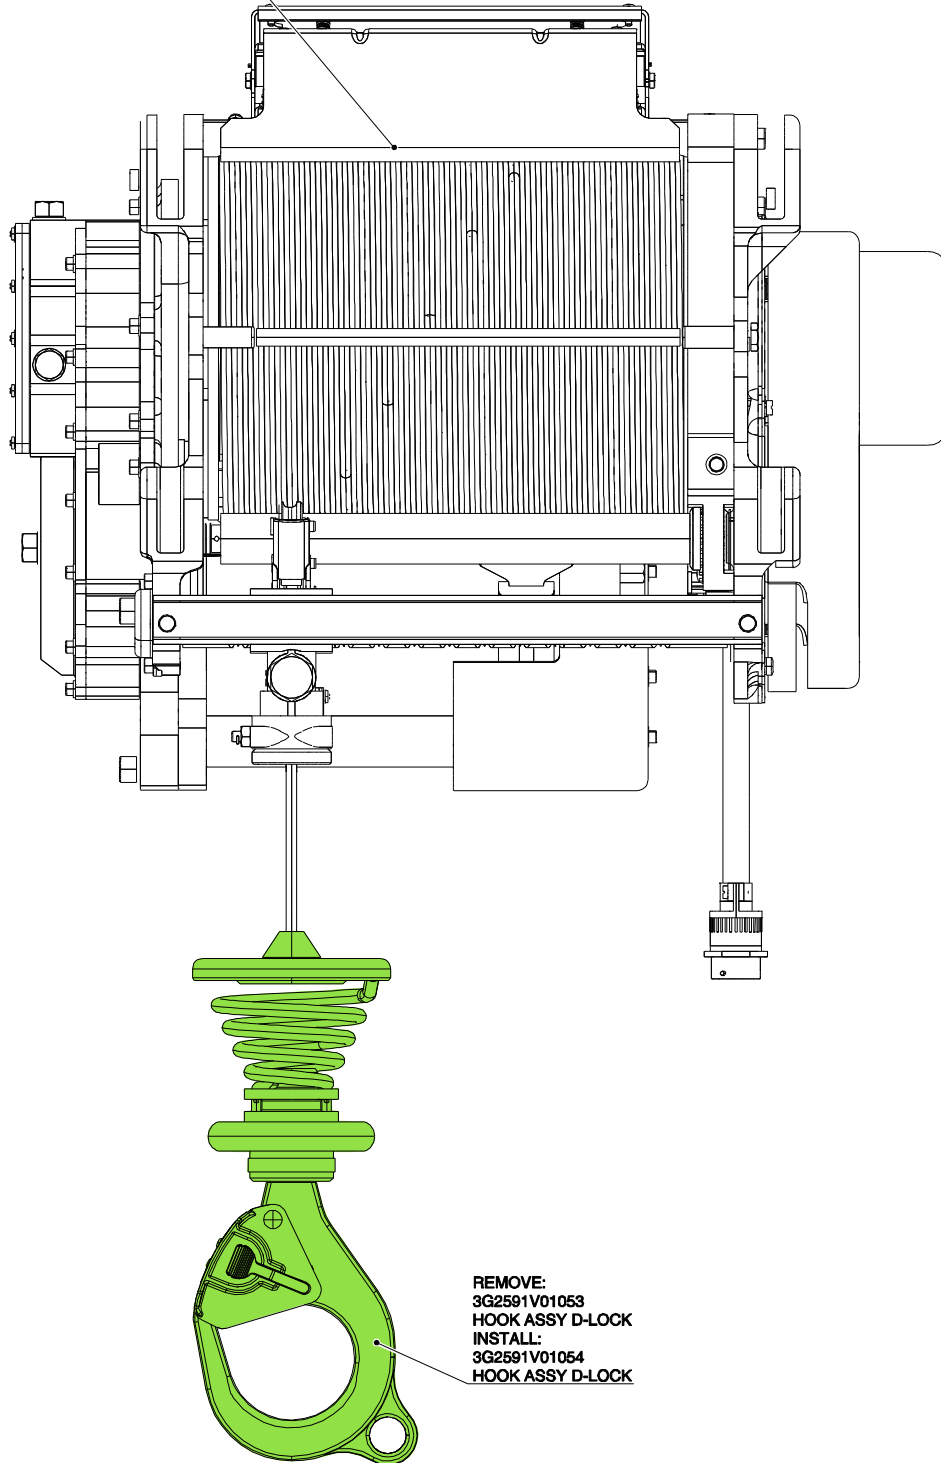

Figure 1
2. With reference to Figures 1 and 3, perform the rescue hoist and hook assy retromod P/N 3G2591P02111 as described in the following procedure:
- 2.1 In accordance with AMP DM 39-A-25-91-01-01B-520A-K and with reference to Figure 1, remove hook assy D-LOCK P/N 3G2591V01053 from the hoist and hook assy P/N 3G2591V02931.
- 2.2 In accordance with AMP DM 39-A-25-91-01-01B-720A-K and with reference to Figure 1, install hook assy D-LOCK P/N 3G2591V01054 on the hoist and hook assy P/N 3G2591V02931.